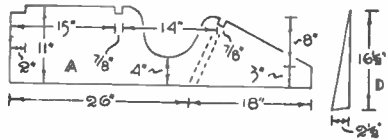

Fig. 3—Body side, with other body parts
First of all, you need about six of the E semi-circles shown at Fig. 3, and four of the semi-circles (F). These require to be cut from  $\frac{1}{4}$ in. material. When cut out in the manner shown, glue two E pieces evenly together, then add an F piece, then an E piece, then an F piece and so on to build up the radiator front.
The radiator cap pieces are cut to shape from  $\frac{1}{4}$ in. wood and glued in place. The largest piece measures 8ins. by 3ins. The cap disc is  $1\frac{1}{2}$ ins. in diameter. Incidentally, the wedge-shaped piece of wood, D, at Fig. 3, is nailed and glued down the rear top of the work as a support for the seat back; keep it in the middle.